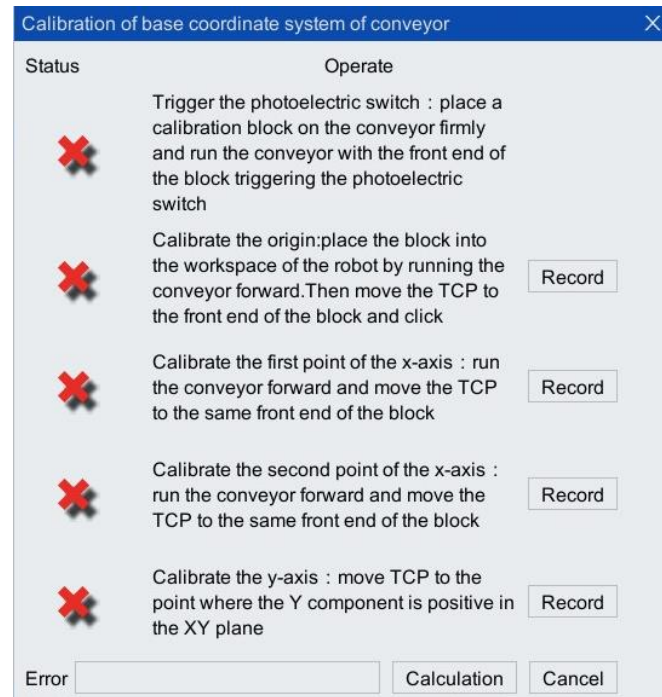
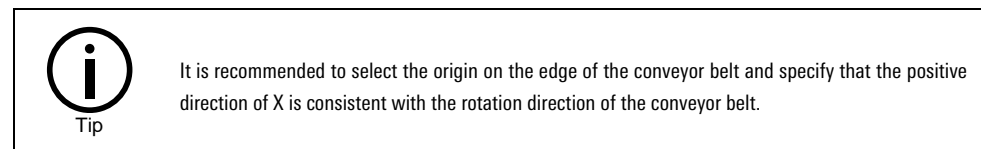

Figure 5-31 Conveyor belt base coordinate system calibration interface
Figure 5-32 Diagram of work object movement on the conveyor belt
Step3. Enter the [Calibration of base coordinate system of conveyor] interface, as shown in Figure 5-31. The calibration steps are as follows:
Step4. The interface needs to record five points to complete the calibration. Follow the operating instructions in Figure 5-31 to complete the calibration of the base coordinate system. For the scene of the work object movement during the calibration process, please refer to Figure 5-32. After successful recording, the × in front will change to √.